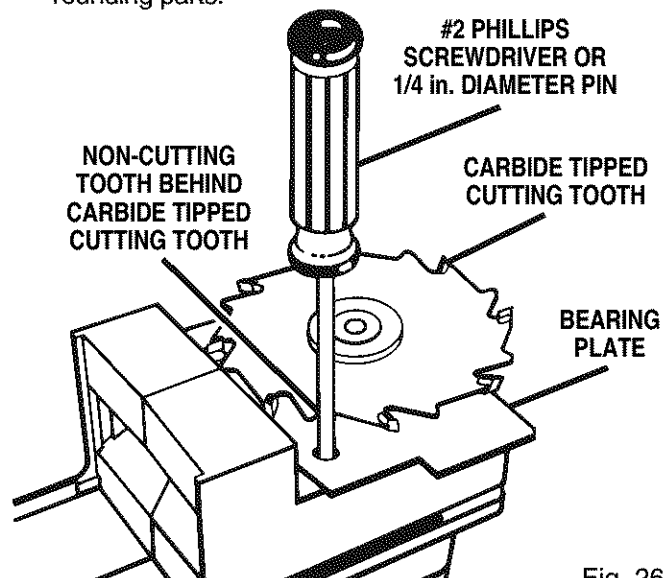

Fig. 26
- With base assemblies removed, place plate joiner upside down on a workbench as shown in figure 26.